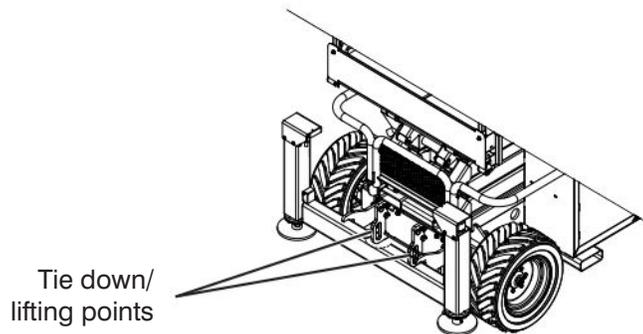

Figure 3-13. Tie Downs/
- The lifting/rigging must be attached to all four lifting points as illustrated in Figure 3-13.
When transporting, the MEWP must be secured to the truck or trailer deck. Tie downs are available as illustrated in Figure 3-13.